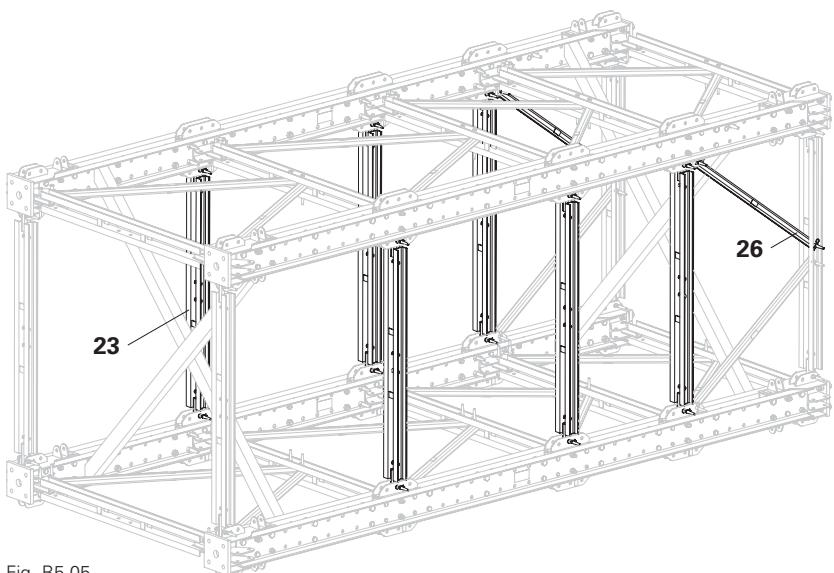

Fig. B5.05
1. Connect the second diagonal strut VST (26)* to the bracing connector VST (8) and horizontal ledger VST 200 (23) using 1x fitting pin Ø 21 mm (9) each.
2. Install the required horizontal ledgers VST 200 (23). (Fig. B5.05)